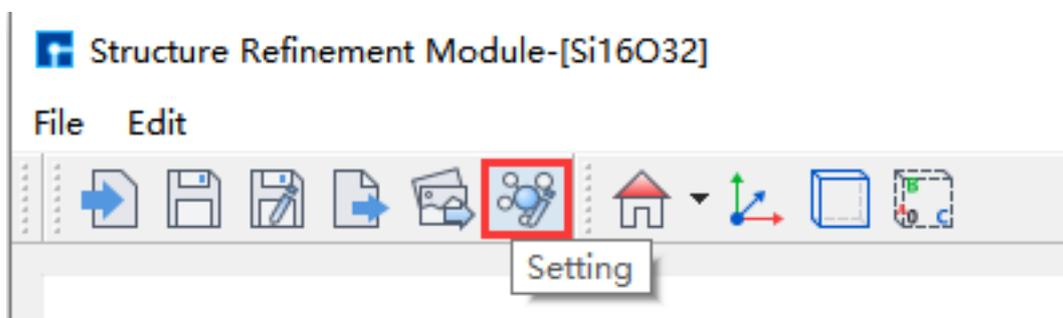
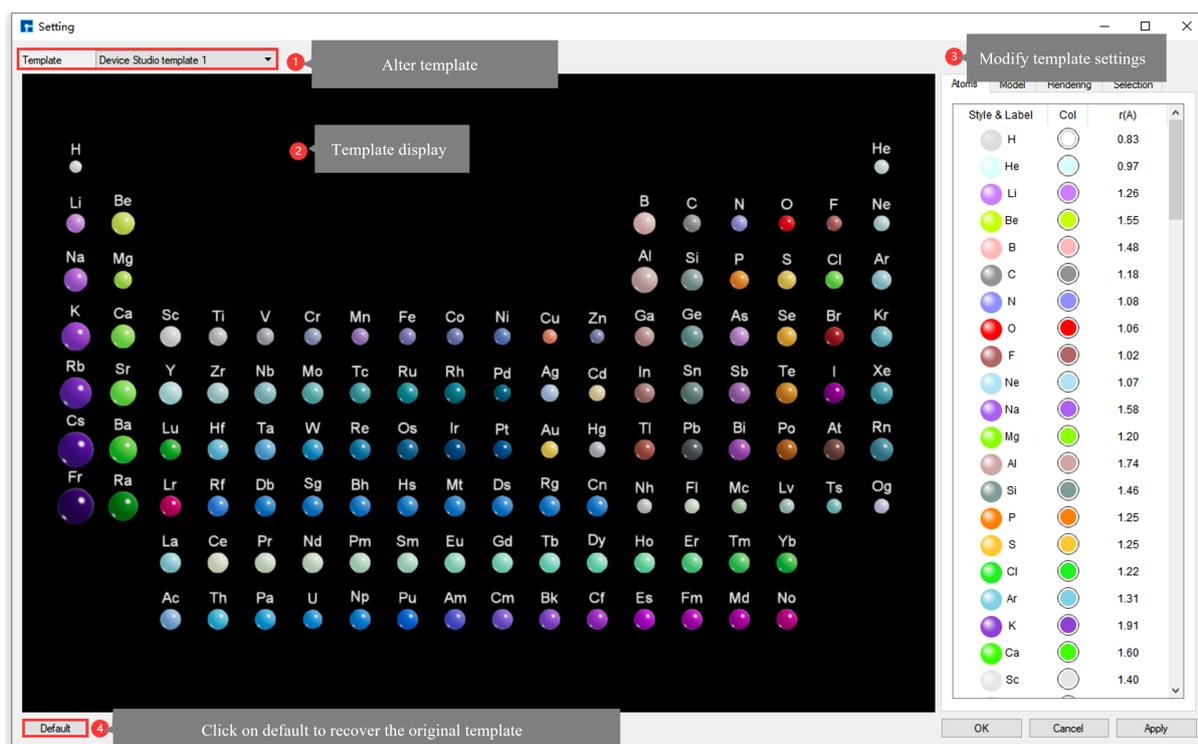
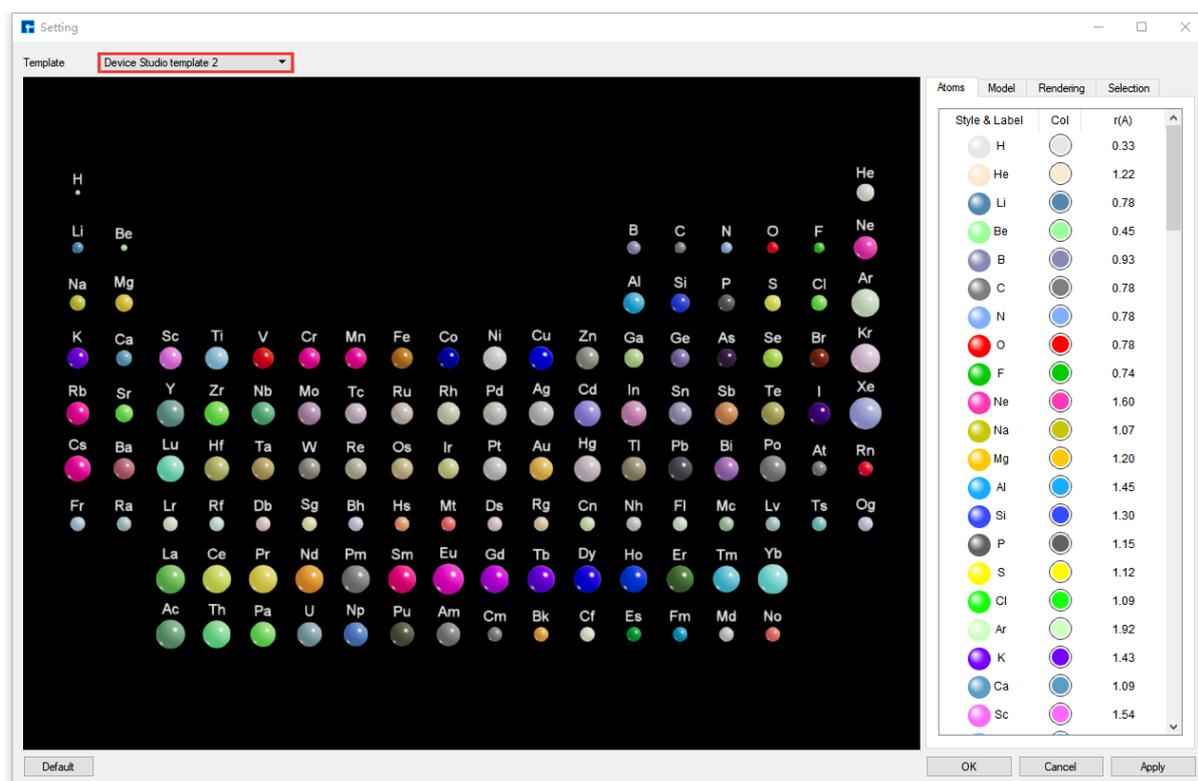

fig. 6.17: Steps to Open the Setting Interface
fig. 6.18: Settings Interface (Device Studio template 1)
fig. 6.19: Settings Interface (Device Studio template 2)
Click the *Setting* icon in the Structure Refinement Module (SRM) graphical user interface SRM toolbar as shown in fig. 6.17, to open the SRM Setting interface as shown in fig. 6.18. This module provides the following functionalities:
- * Initial templates Device Studio template 1 and Device Studio template 2 are shown in fig. 6.18 and fig. 6.19 respectively.
Functional description of parameters in the Setting interface of the atomic structure refinement module fig. 6.18:
- * The Structure Refinement module currently includes two Device Studio initial templates, Device Studio template 1 and Device Studio template 2, as shown in fig. 6.18 and fig. 6.19 respectively. A dropdown button allows selection; Device Studio template 1 is used by default. The templates contain:
To generate a user-specific template, you can modify the initial Device Studio templates, Device Studio template 1 and Device Studio template 2, based on fig. 6.18 and fig. 6.19 respectively. Adjust parameters such as color, radius, lighting, and background color, then click *OK* or *Apply* in the Setting interface. Refer to *SRM Parameter Adjustment Area* for detailed parameter adjustment instructions.
The initial Device Studio templates, Device Studio template 1 and Device Studio template 2, are shown in fig. 6.18 and fig. 6.19, respectively.